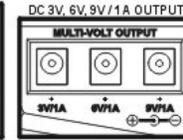

Fig.11
- Make sure your devices match the PowerTank's rating - 10Amp for DC 12V & 1 Amp for DC 3, 6, 9V. (FIG.11, 12)